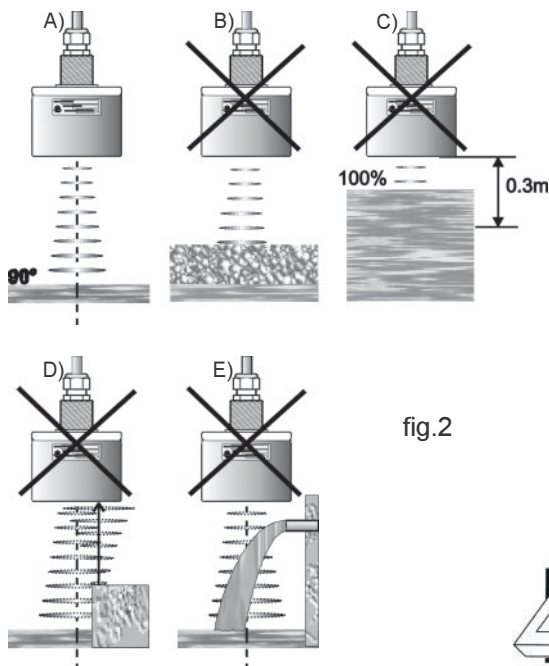

fig.2
To reach a good and safe measurement, avoiding spurious echo (not reflected from the surface to measure) need to take care about the sensor sensibility volume in the sound path, no obstacles or objects must be present into the sensibility volume (lobe), see fig.2/D/E.
On fig.2 some suggestion:
- 1) Install perpendicular at the surface, see fig.2/A
- 2) Don't use with foaming products, see fig.2/B
- 3) Avoid installation where the product distance could be less than 0,3m, see fig.2/C
- 4) No obstacles or objects must be present into the sensibility volume, see fig.2/D/E